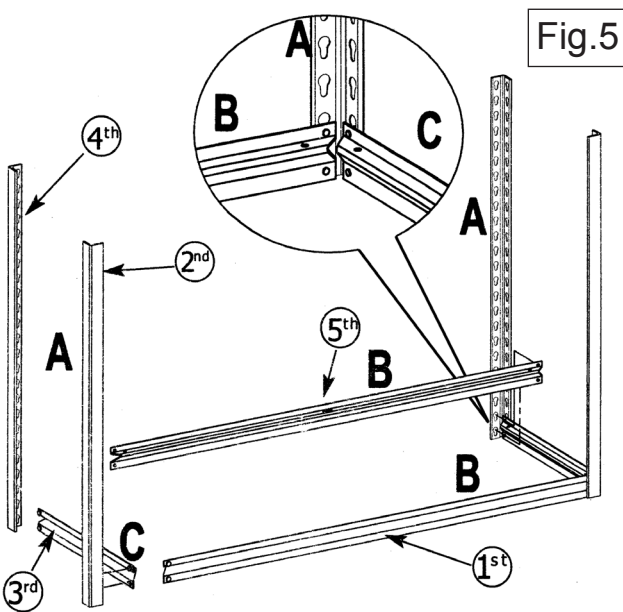

Fig.5
4.3 See Fig.5. Continue to assemble the complete bottom frame in the order indicated above in Fig.5 starting with a long 'Z' beam (B). Ensure that each 'Z' beam is facing upwards. Tap the beam at either end, close to each angle post with a rubber mallet to ensure that the rivets are seated at the bottom of the keyhole slots.